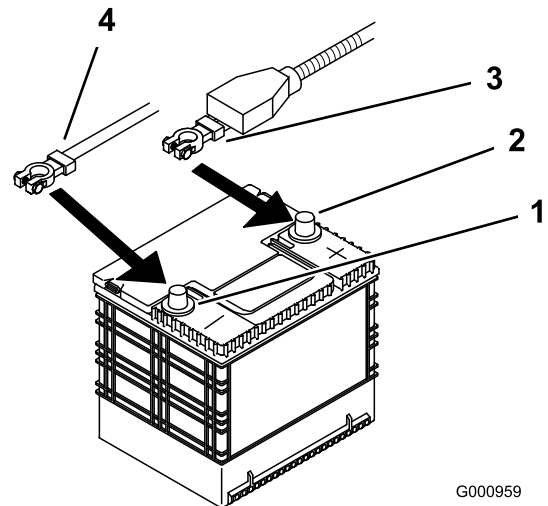

Figure 45
4. First disconnect the negative battery cable from the negative (-) battery terminal (Figure 45).
5. Slide the red terminal boot off the positive (red) battery terminal. Then remove the positive (red) battery cable (Figure 45).
4. Secure the cables with 2 bolts (1/4 x 3/4 inch), 2 washers (1/4 inch), and 2 locknuts (1/4 inch) (Figure 45).